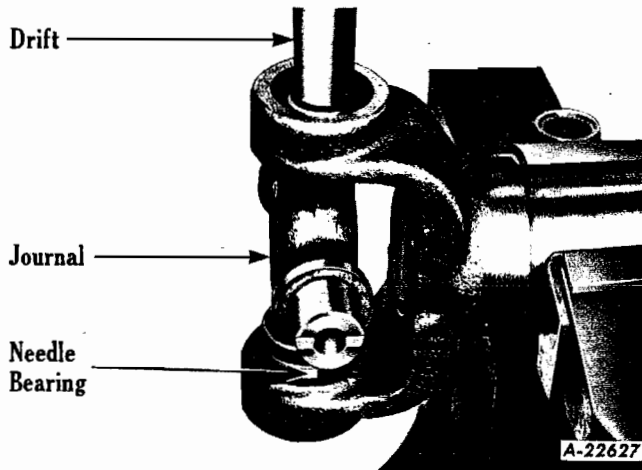

Fig. 18
- f. Turn yoke or joint over and tap on exposed end of journal or cross end to remove remaining needle bearing (Fig. 18).